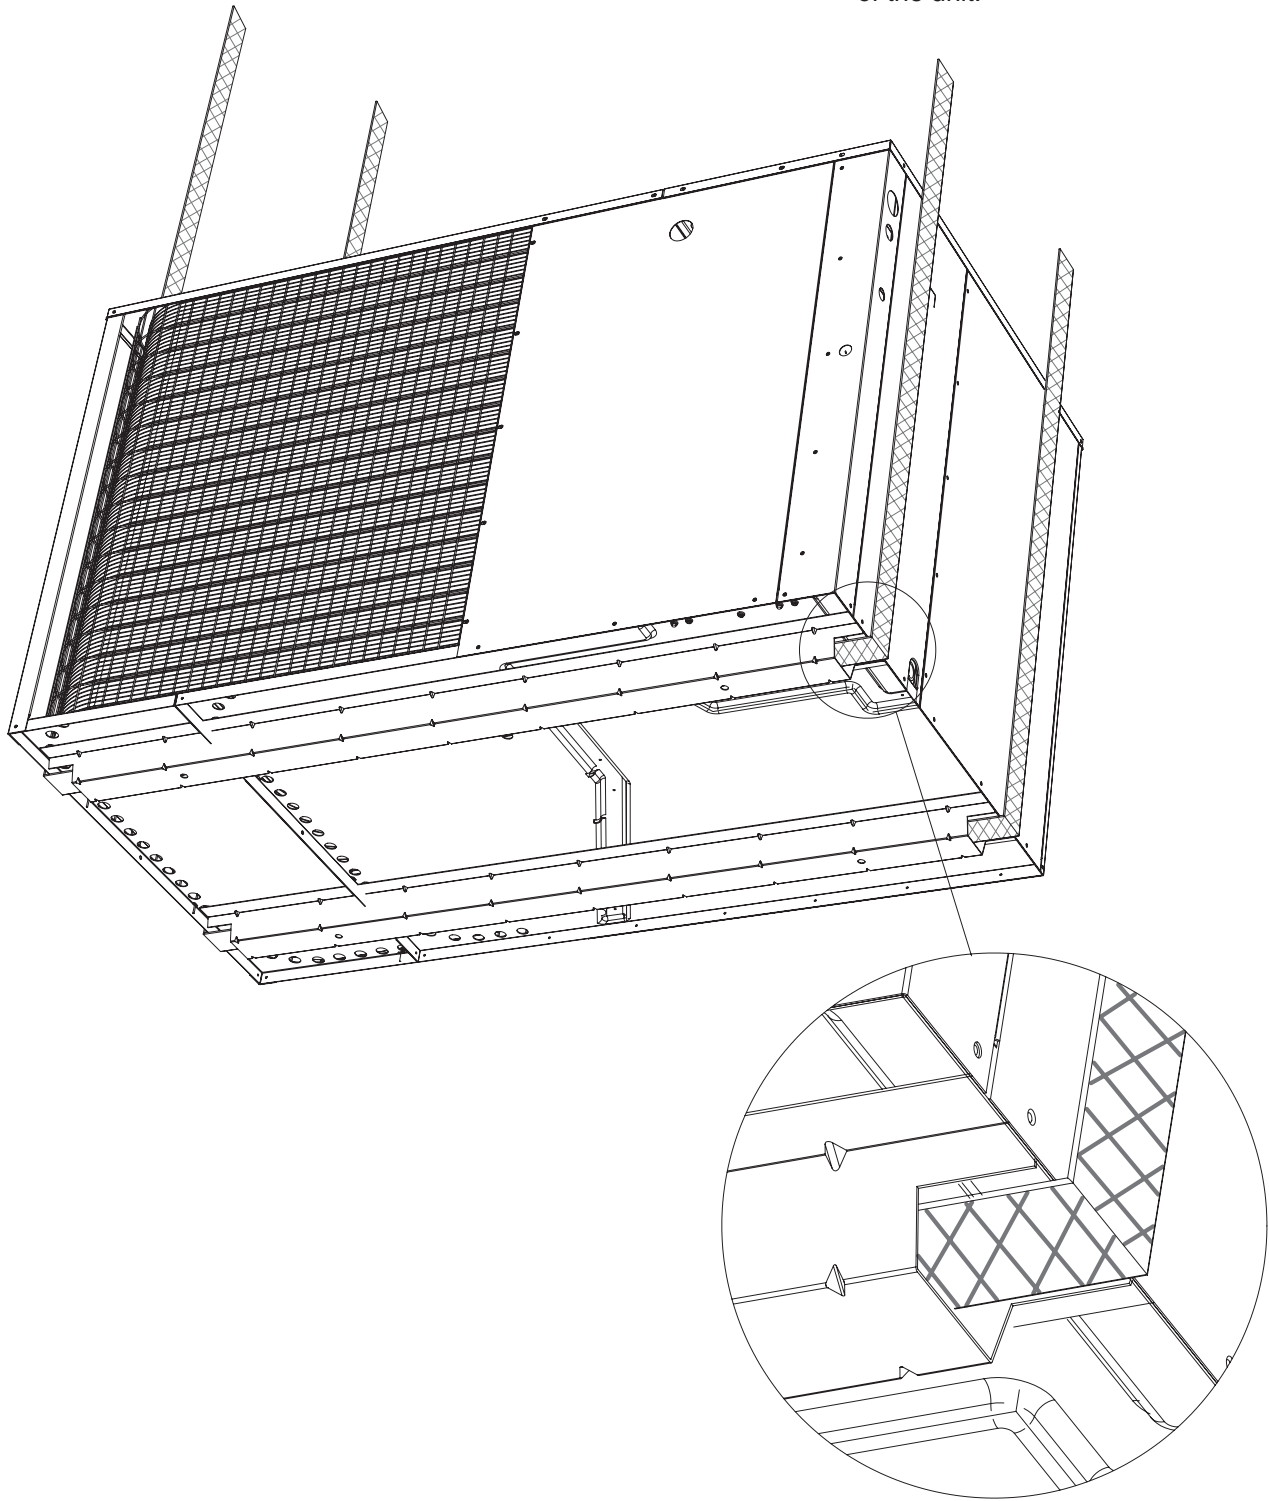

Figure 3. Slings and Bottom Channels
- The spreader bars are necessary for proper load stability and to prevent the unit's cabinet from being damaged. The slings should run thru the unit's bottom channels (see Figure 3) and should be adequately protected against cabinet metal edges. **NOTE:** Appropriate protection should be used between the strap and the sheet metal edge of the unit.